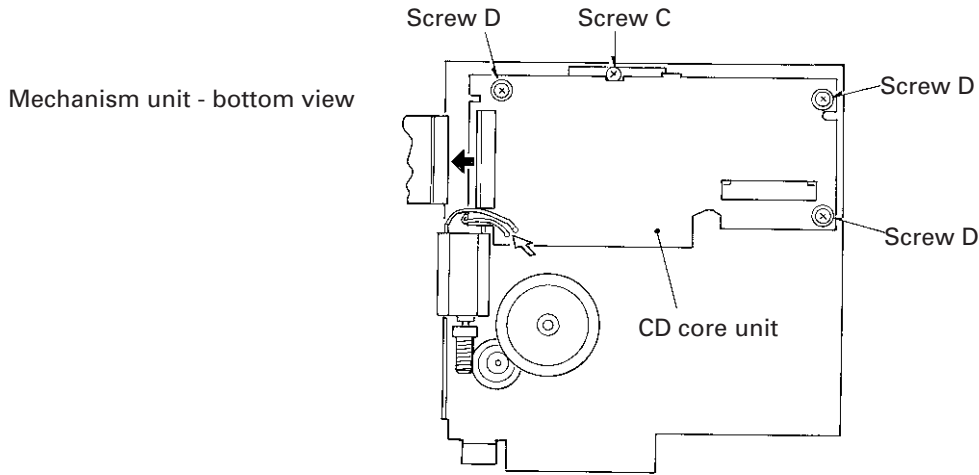

Fig. 24
4. Remove screw C and three screws D and then the CD core unit (see Fig. 24).